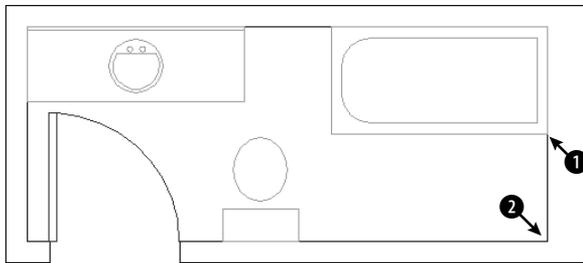

Figure 9-4: The bathroom plan.
Specify base point or displacement: *Move the cursor to the Intersection at ① in Figure 9-4 and click.*
Specify second point of displacement or <use first point as displacement>: *Move the cursor to the Intersection at ② in Figure 9-4 and click.*